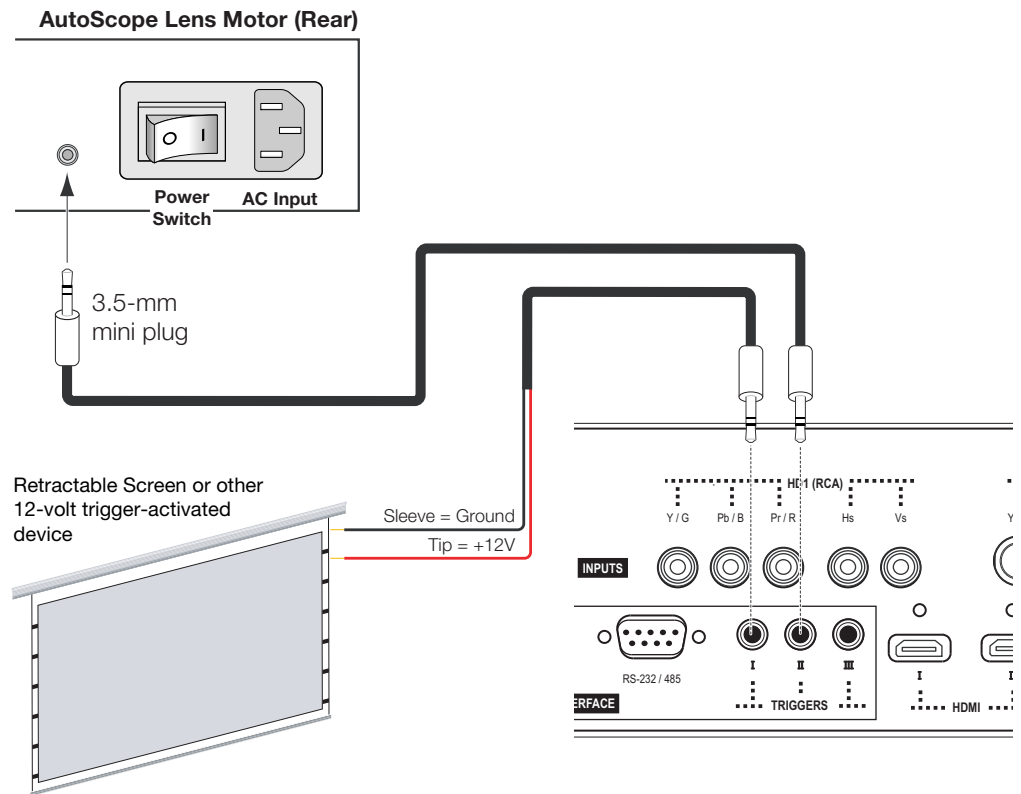

**Figure 3-17. 12-volt Trigger Output Connections**
If your Vision 120 is equipped with a CineWide with AutoScope system, connect the AutoScope lens motor to a 12-volt trigger output on the VHD Controller; see Figure 3-17.
3. If this is an AutoScope-equipped projector, turn on the main power switch at the rear of the AutoScope lens motor. The lens motor power switch is located next to the AC input (see Figure 3-17).